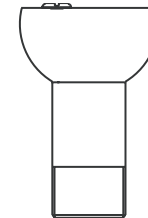

Figure 3f - Pipe, Wedge, Pin & Trilobular™ Ball assembly.
8. Insert and tighten the positioning screw into the Trilobular™ ball. See Figure 3f.